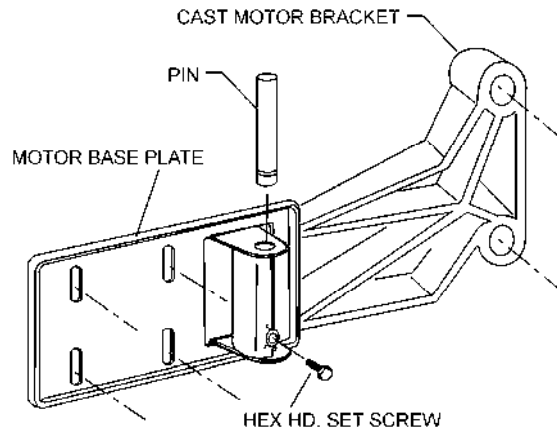

Figure 14
5. Assemble the motor base plate to the cast motor bracket as shown in Figure 14. Slip pin through and secure with the hex head set screw.